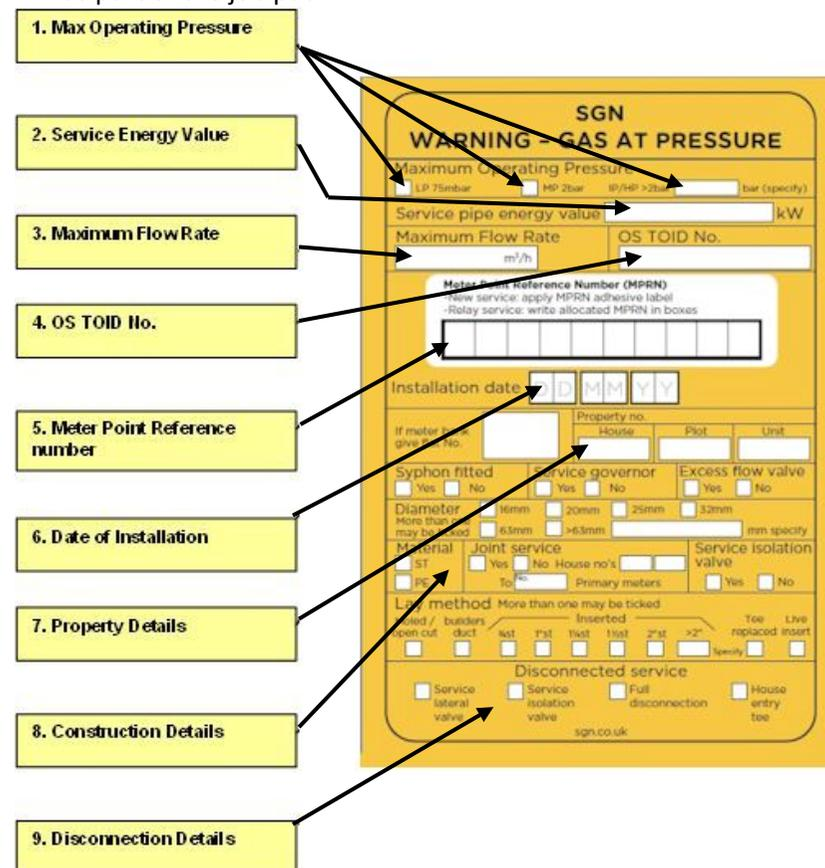

Figure 99 - Example 1 of ECV and Service Information Label
- The service information label (B608) must be completed on site at the time of the installation of the service pipe and attached to the inlet side of the ECV; the mandatory information is detailed in Figure 99.
- a) Information in boxes 1-5 in Figure 99 will be completed and provided as part of the job pack issue. You must complete the remaining information.